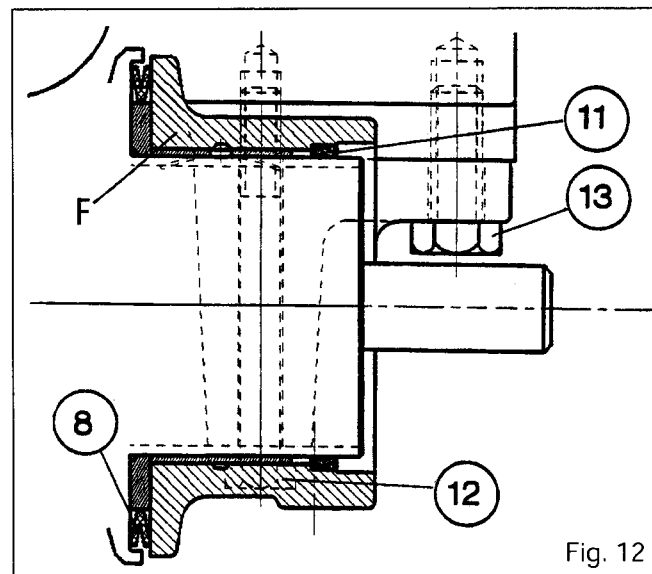

Fig. 12
F : Installation with dust guard (8) and seal (11) (Fig. 12) (removable support).